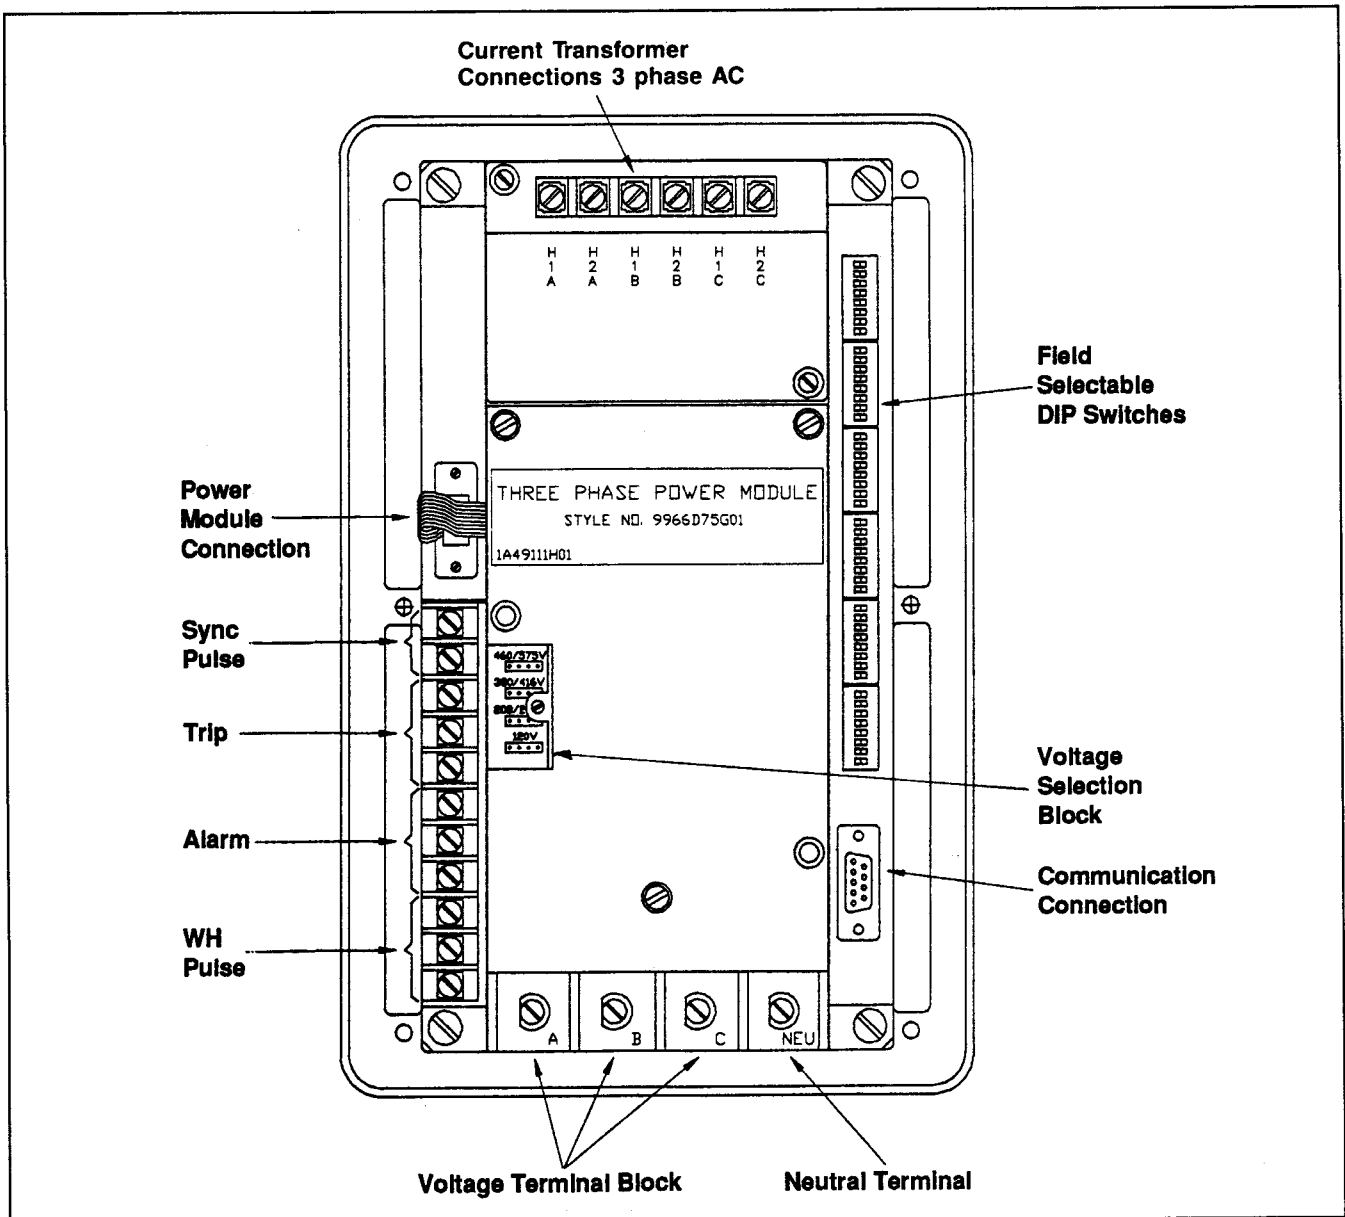

Figure 2.1A — Rear Access Area
2. If using a three-phase power module, the Voltage Selector Jumper, essentially a shorting bar, must be positioned by the user during installation to match 1 of 4 operating voltage ranges. (Installation procedures, along with a listing of ranges, are given in Paragraph 4.1.4.) See Figure 2.1A.